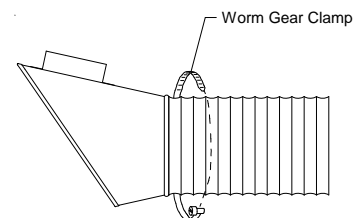

Fig. 3
4. Slip the end of the hose over the nozzle and secure it in place with the band clamp (supplied; fig. 3).